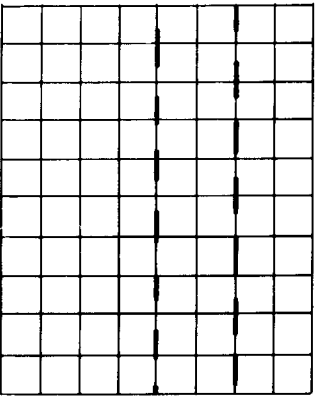

Figure 5a. Normal Display
2. Adjust the horizontal POSITION 35 control to place the waveform portion you want to magnify on the CRT center graticule (see figure 5a).